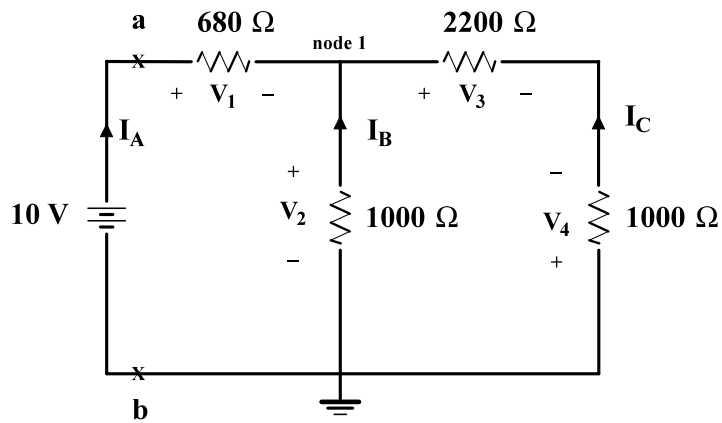

Figure 1.17: Circuit for Laboratory Exercise, Part 3LE.
- (b) Connect the circuit shown in Figure 1.17. Using an ammeter, measure and record the currents I_A , I_B , and I_C .
- (c) With the circuit connected as in Figure 1.17, use a voltmeter to measure and record the voltages V_1 , V_2 , V_3 and V_4 .